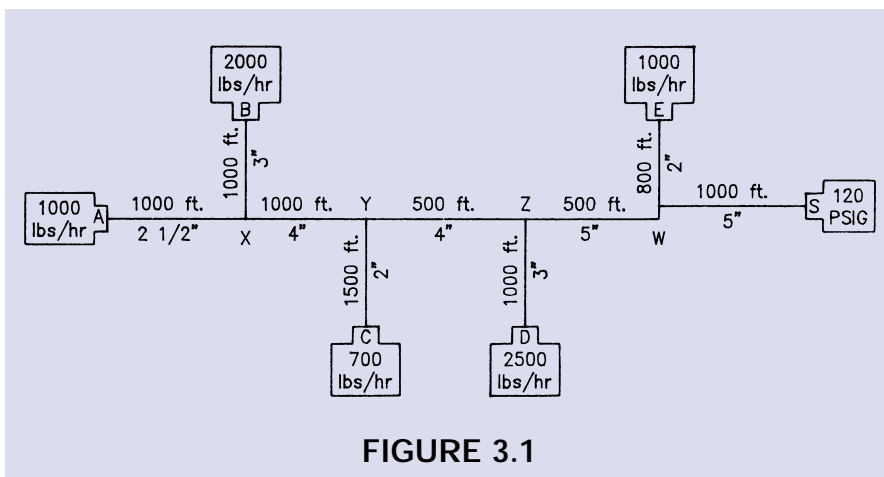

FIGURE 3.1
**EXAMPLE:** The system shown in Figure 3.1 will be used as our example. The Supply "S" at the right is 120 psig steam which is branching off to steam users A, B, C, D & E. The equipment usage is indicated in lbs/hr. The segments of piping will be addressed going backwards from the furthest end user A. The steam flow going through the pipe segment from the intersection X to equipment A is 1000 lb/hr (the usage of A). **A simple rule of thumb** for smaller steam piping (6" and below) is to keep steam velocities below 10,000 feet/minute (165 feet/second) for **short lengths of pipe only**.
Remember that pressure drop figures from the bottom of the chart are per 100 feet, so segments such as Y to C have a larger total pressure drop because the distance is longer. Similarly, the total pressure drop from Z to Y is less because the distance is only 500 feet. The values for steam flow continue to be additive for each steam user: Z to Y is 3700 lb/hr (61.7 lb/min), W to Z is 6200 lb/hr (103.3 lb/min) and S to W is 7200 lb/hr (120 lb/min). Pipe sizes in Figure 3.1 are given for your reference and provide the user with reasonable pressure drops in the steam lines.